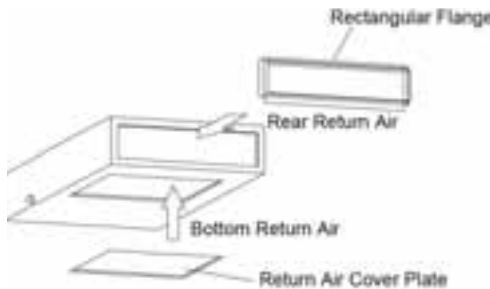

Fig. 4.35
(2). The default installation location of the rectangular flange is at the back and the return air cover plate is at the bottom, as shown in Fig. 4.35.